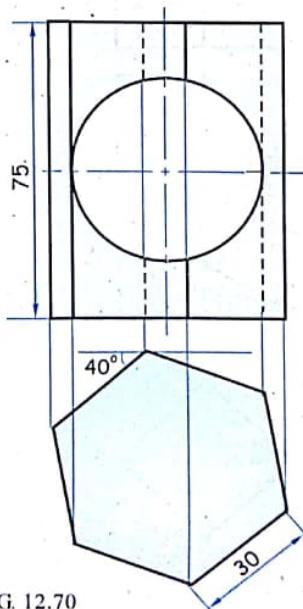

FIG. 12.70
11. Figure 12.70 show the F.V. and T.V. of hexagonal prism with side of base 30 mm, axis height 75 mm. A circular hole is drilled horizontally having axis perpendicular to V.P., parallel to H.P. and bisects the axis. It touches tangentially to the two vertical edges as shown. Draw the D.L.S. with effect of hole.